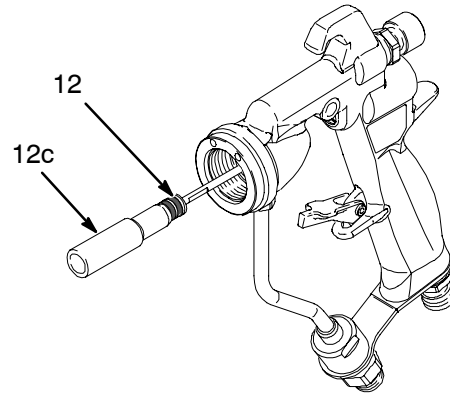

Fig. 22
5. Insert the fluid needle assembly (12) into the front of the gun. Use the tool (12c) to push the packing cartridge into the gun body until the cartridge bottoms out. See Fig. 22.